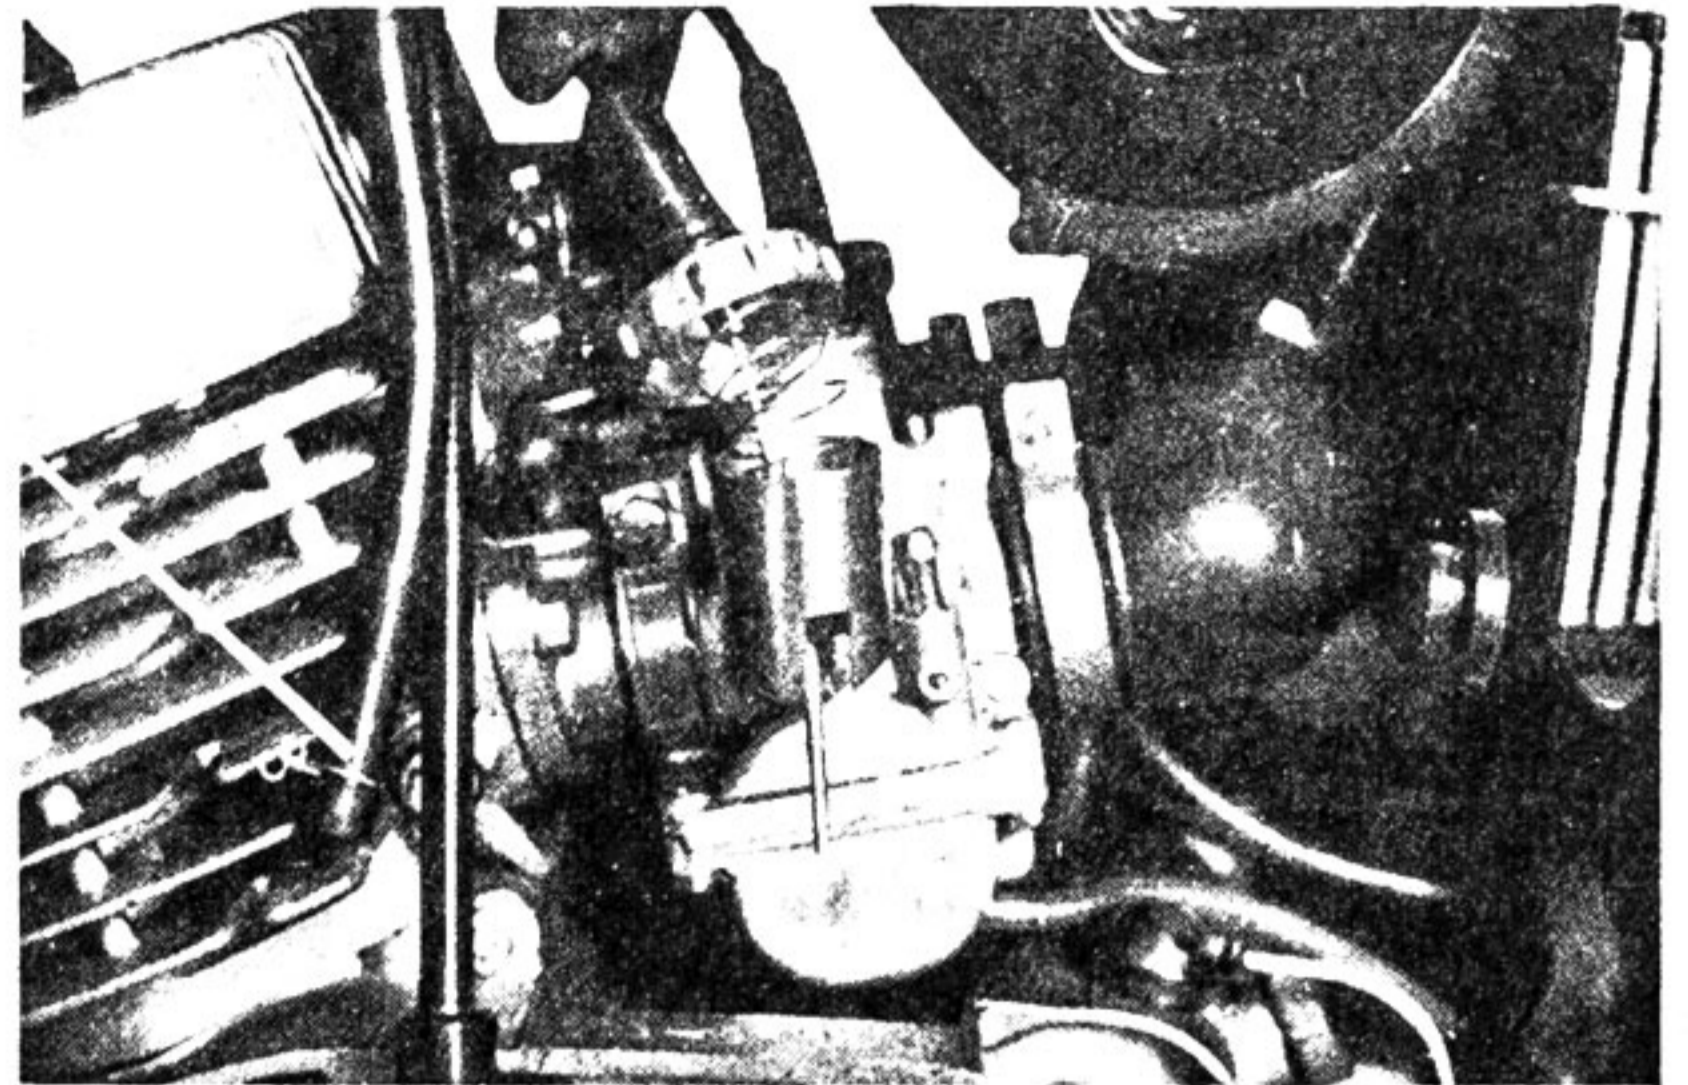

Fig. 4-1-10
6. Remove the carburetor throttle valves. (Fig. 4-1-10)